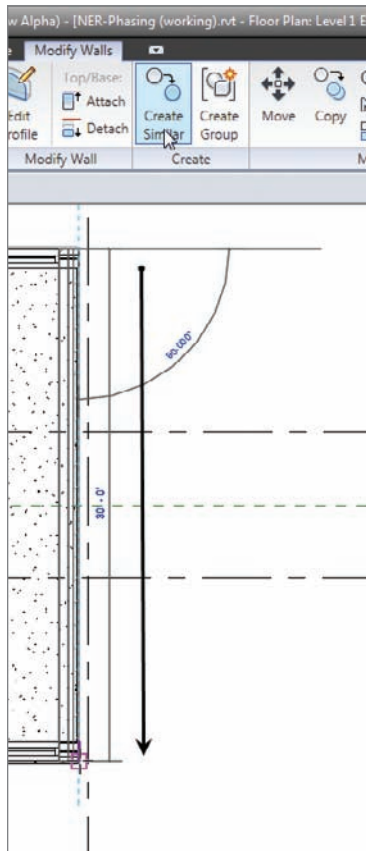

FIGURE 21.8 Drawing a new wall in the existing plan. This wall will later be demolished.
4. In the east end of the link, zoom in on the end. You will see a wall missing. Select one of the exterior walls, and select Create Similar from the Modify Walls tab, as shown in Figure 21.8.
5. Draw a wall across the front of the opening, as shown in Figure 21.8.